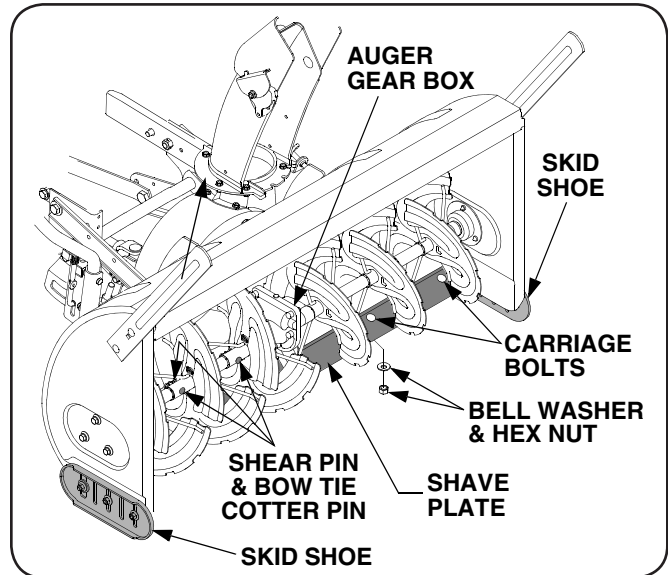

Figure 7-1
The shave plate and skid shoes on the bottom of the snow thrower housing are subject to wear. They should be periodically checked for wear and replaced when necessary. Failure to do so will result in damage to the housing. Refer to Figure 7-1.
1. The augers are secured to the auger shaft with six shear pins and bow-tie cotter pins. Refer to Figure 7-1. If an auger is suddenly jammed by a foreign object or ice chunk, the pin is designed to shear — minimizing potential damage to the gear box or sprocket box.